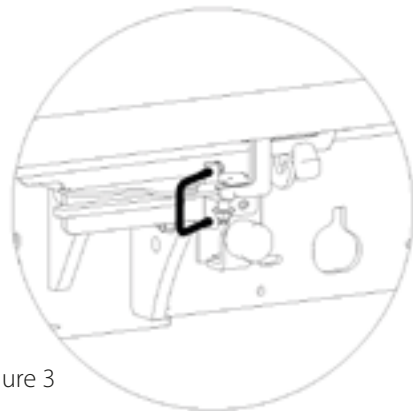

Figure 3
- Use of the Easydoor rear door with the automatic release function: unlock the spring clip (Figure 3) before carrying out tipping (automatic opening of the hooks on the lower latches).